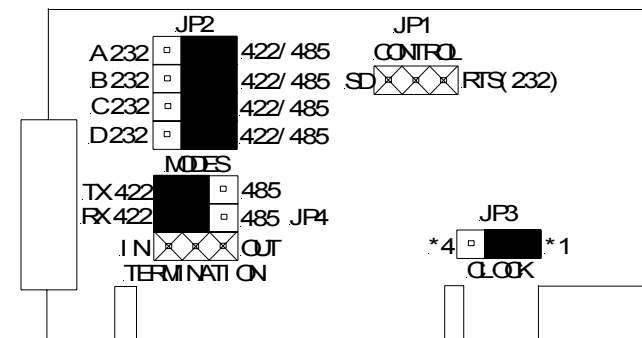

Figure 3. RS-422 Mode Jumper Settings
5. The bottom jumper "Termination" of JP4 switches the 120Ω receiver termination resistor IN or OUT. Typically this resistor is not used. In some cases using high baud rates and very long cables, termination is needed. See B&B's free **RS-422/485 Application Note**, Termination section, page 16, for more information (available on our websites). Figure 3 shows the jumper configuration to set the port for RS-422 mode with *1 clock enabled.